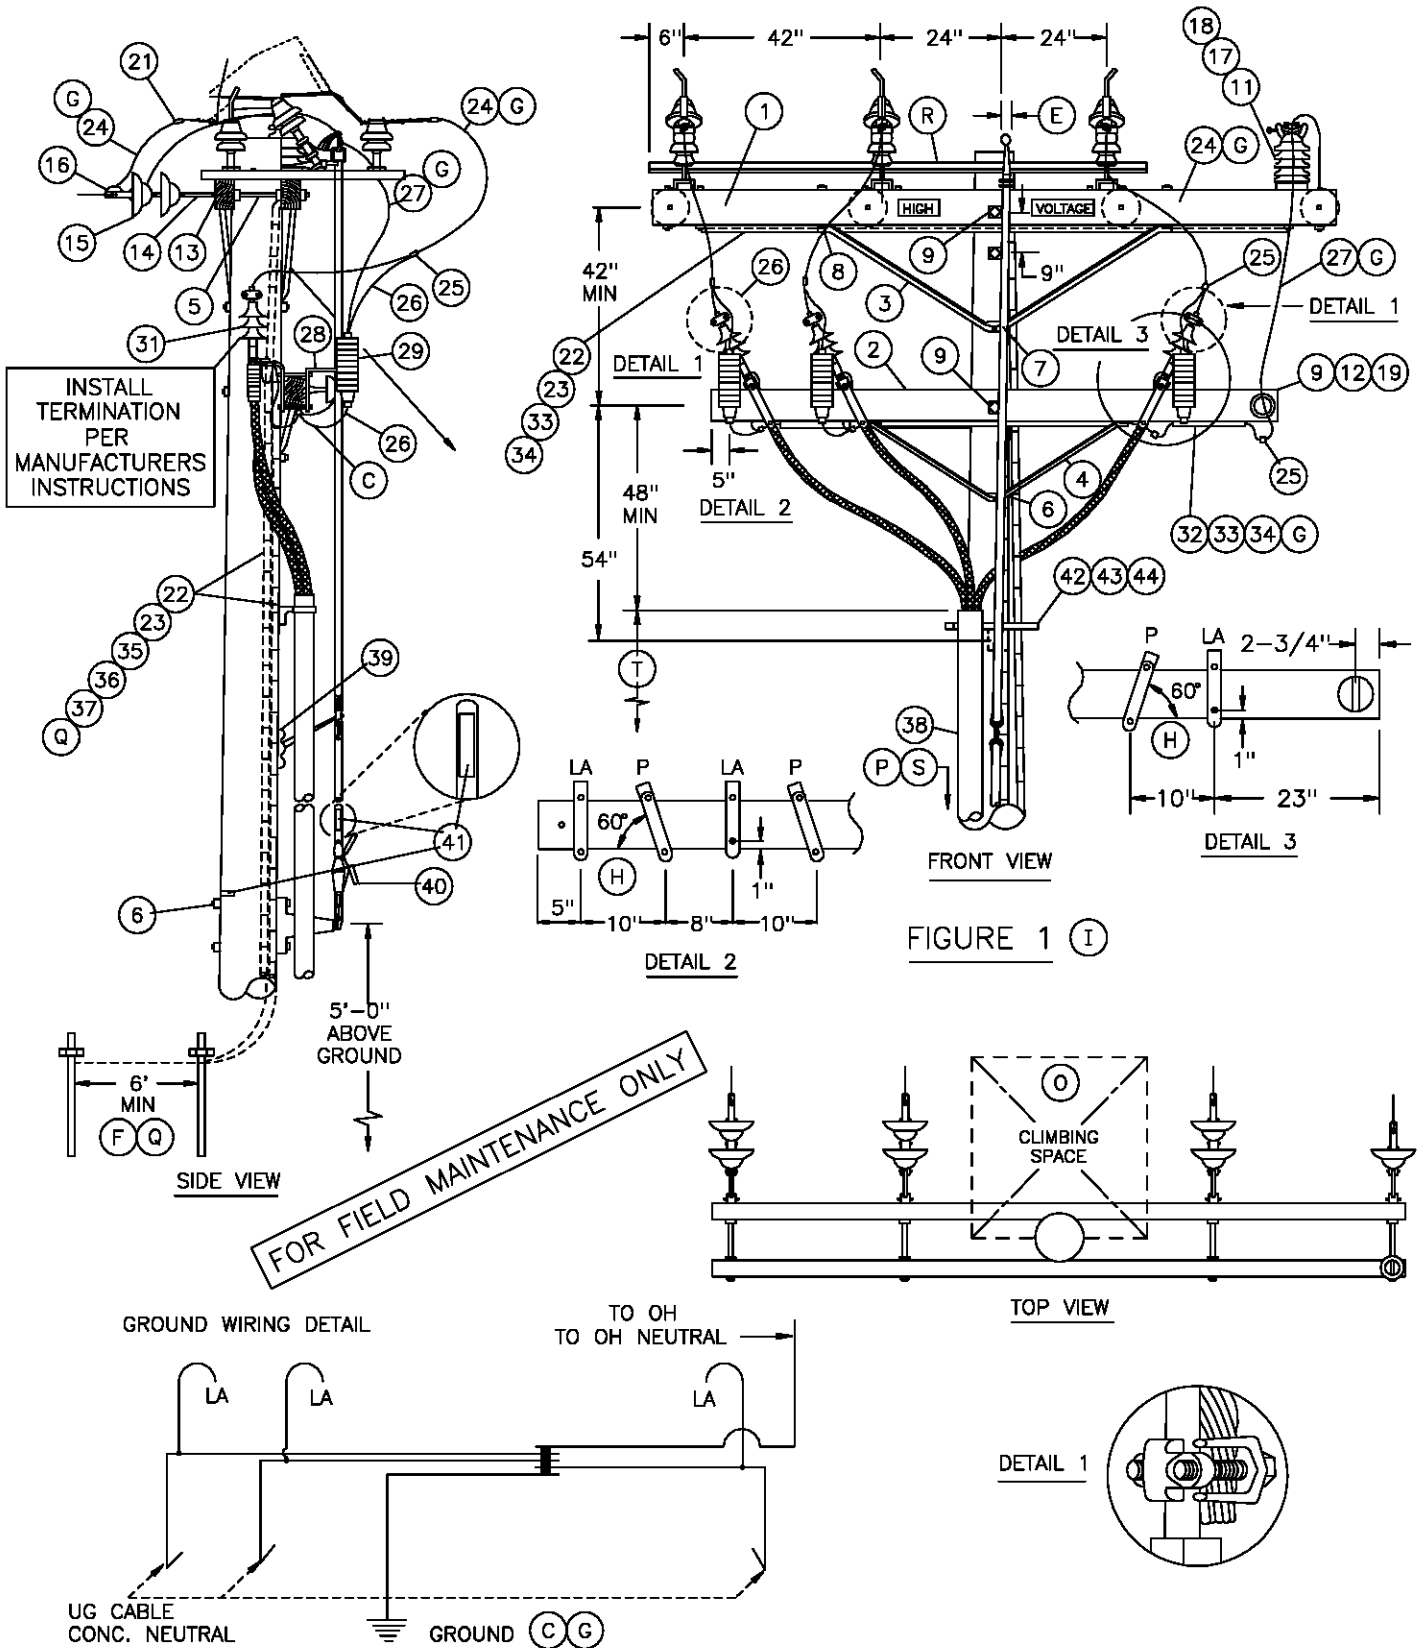

FIGURE 1 (I)
- G. WHEN ADDING THIS CONSTRUCTION TO AN EXISTING POLE WITH A 10' LINE ARM, AND SUFFICIENT POLE HEIGHT EXISTS, INSTALL 10' SWITCH ARMS AND ASSOCIATED HARDWARE BELOW THE LINE ARM TO AVOID CHANGING LINE ARM FROM 10' TO 12' (SEE O.H. STANDARD 1222, FIG. 1-B).